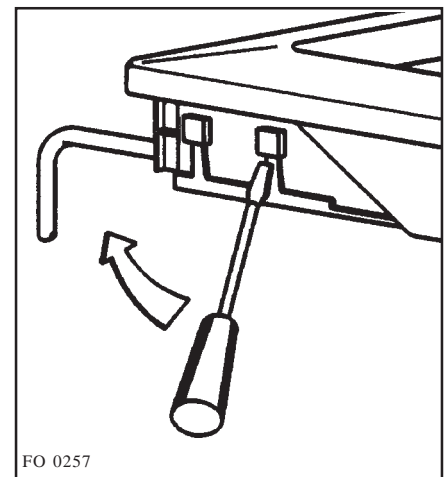

Fig. 4
2. exert a light pressure and lift (Fig. 4)